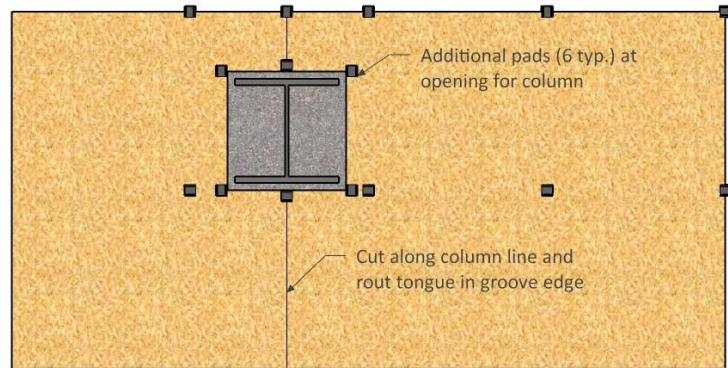

Figure 4: Typical Inverted Plan with Column Cutout
- Fig. 4: Typical pad layout for column opening at concrete floors. Column location can be anywhere in the panel. Adjust pads accordingly for support.